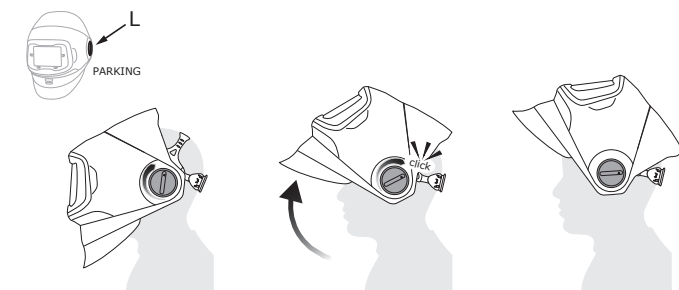

Fig. 6b
- The parking stop, is a natural stopping point that will help hold the grinding lens in the open or up position. To make the stopping point more prominent, turn the left-hand pivot knob labeled PARKING clockwise to increase, counter clockwise to decrease the holding power at the stopping point (Fig. 6b).